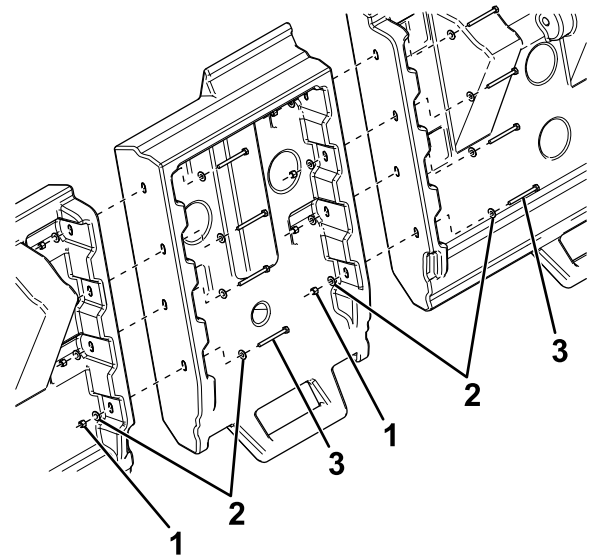

Figure 2
- For VBX 8000/9000 spreaders, secure 3 cover sections together using 8 bolts (1/4 x 2-3/4 inches), 16 washers, and 8 nuts (Figure 2).